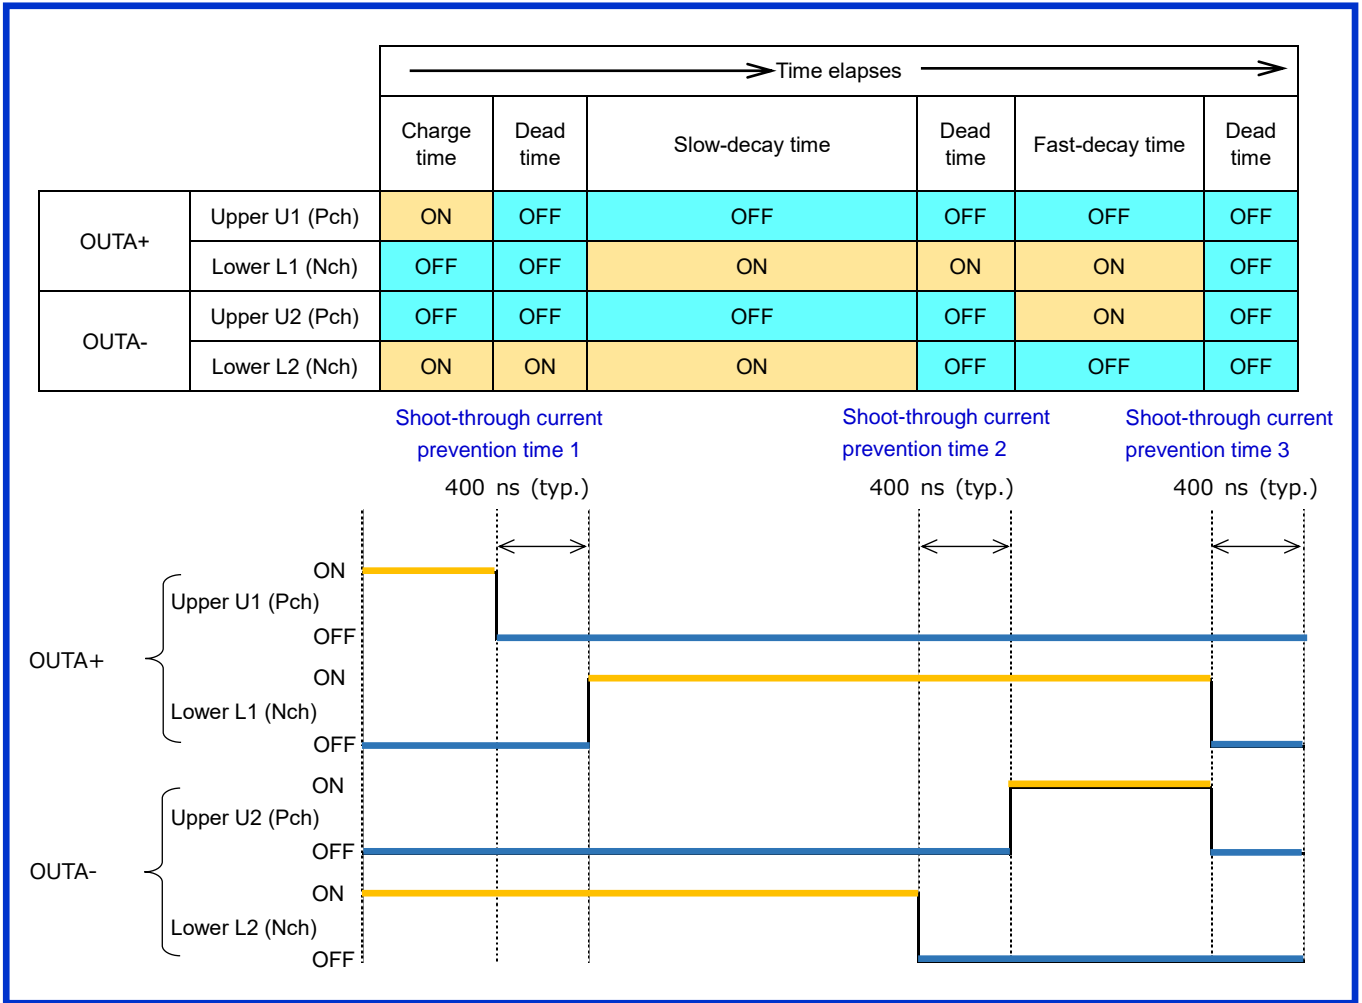

Figure 5. Shoot-through current prevention time illustrated by a waveform chart
- The control shown in Figures 5 and 6 prevents the pairs U1-L1 and U2-L2 from turning on simultaneously. The following case is for a current direction of  $OUTA+ \Rightarrow OUTA-$ .
- Figures 5 and 6 both show the case for a current direction of  $OUTA+ \Rightarrow OUTA-$ . If the current direction is  $OUTA- \Rightarrow OUTA+$ , current flows in the opposite direction and the current applied to the H-bridge is mirrored.